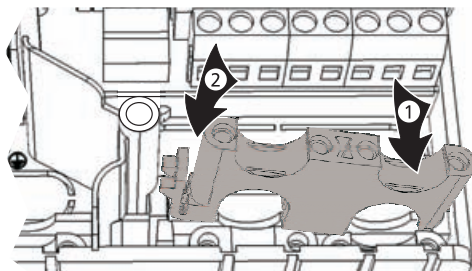

Fig. 4: Inserting the right plastic link
1. Insert the right plastic link with the latching protrusion first ① (Fig. 4).
2. Press the other side of the plastic link down ②, until the spring clamp latches into place.